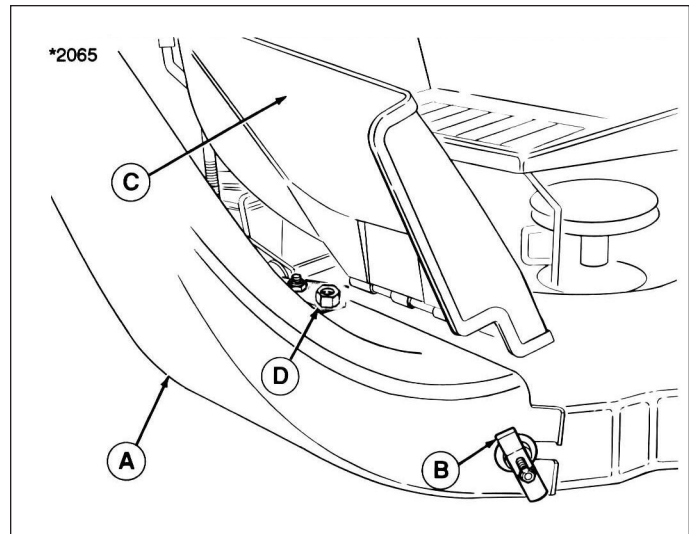

Figure 4. (30" Mower Shown)
4. On 30" mower, lift the deflector (C) up and install the adapter (A, figure 4) to mower deck by hooking bracket over the rear carriage bolt and securing with jam nut (D) and positioning front slot on the adapter under wing nut (B). Secure by tightening knob and wing nut. Make sure that bottom of adapter is below stone guard.
6. To remove the grass catcher assembly, reverse steps 1 - 5. Make sure deflector (C, Figure 4) is in proper operating position after removal of grass catcher adapter.